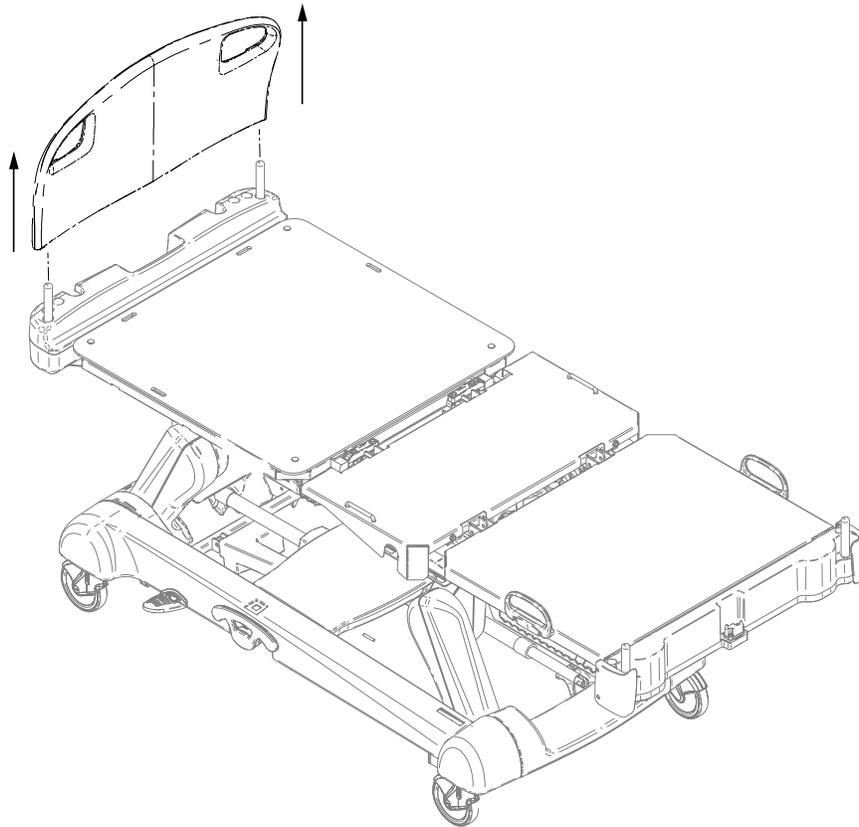

Figure 1 – Insert retainer straps
5. Thread the retainer straps (A), down through the **InTouch** Fowler retainer holes (B) (Figure 1).